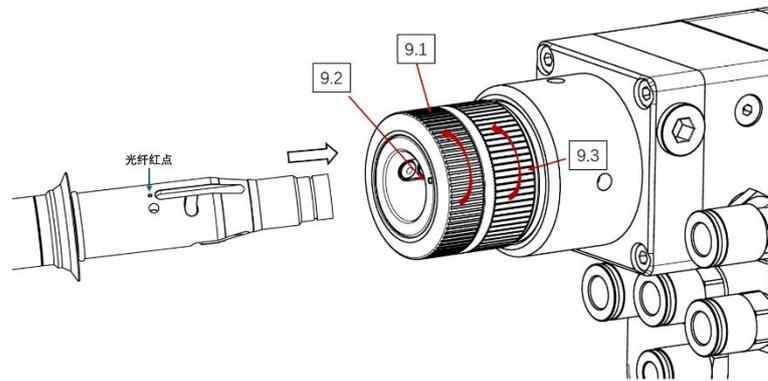

图 9.2
4. As shown in Figure 9.2, after inserting the optical fiber, first rotate 9.3 clockwise until it is fully tightened.